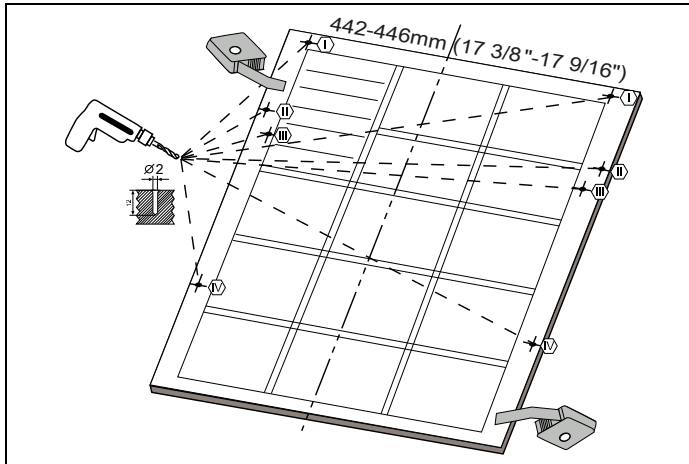

Fig. 24
As shown in Fig. 24 , you must measure the height and depth of the cabinetry to determine the dimensions of the outer door.
- 2) As shown in Fig. 24 , the screw hole is opened to the outer door from the points marked on the installation plan. Diameter of Drill Bit: 5/64" (2 mm) Depth of Drill Bit: 15/32" (12 mm)